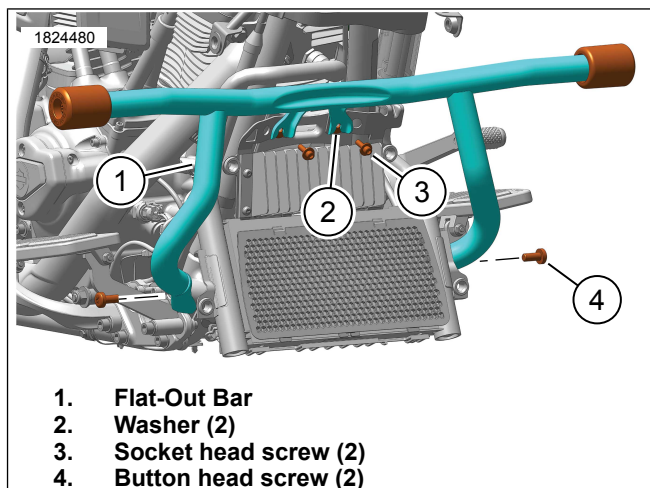

Figure 3. Flat-Out Bar
1. See Figure 3. Position Flat-Out Bar (1) to frame.
2. Loosely install button head screws (4).
3. Loosely install socket head screws (3).
- a. **2014-2016 models:** Install washers (2) between Flat-Out Bar (1) and frame.
- a. **Socket Head Screw (3)**